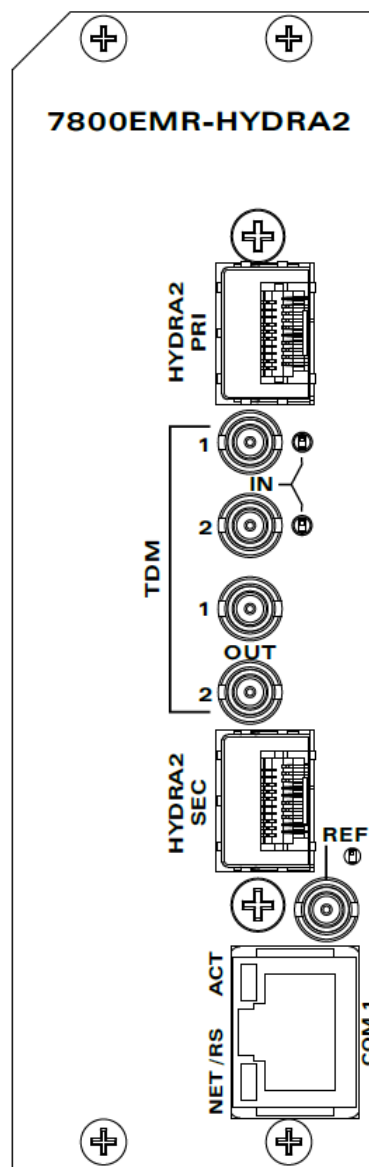

Figure 3-1 : 7800EMR-HYDRA2 Rear Panel
Step 1: Install the 7800EMR-HYDRA2 rear plate to the 7800 Frame with screws provided and make sure the orientation of the card as is shown in Figure 3-1.